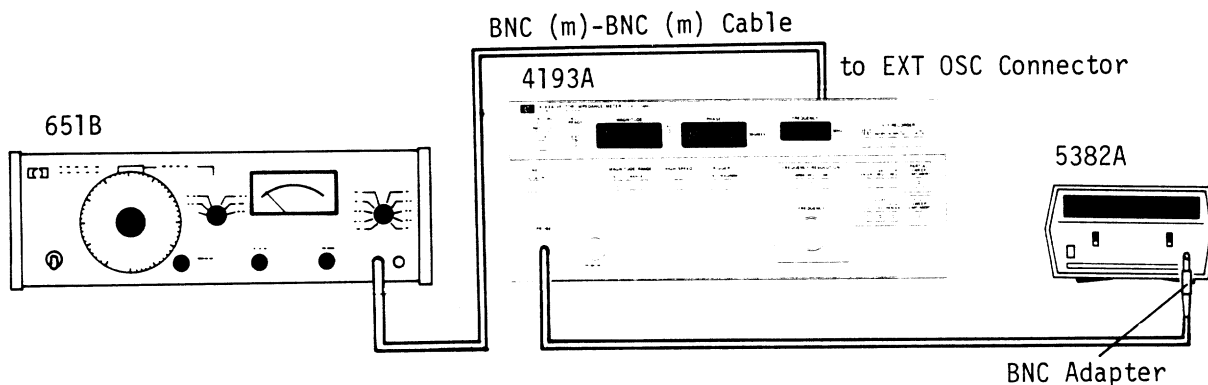

Figure 4-5. External Oscillator Usage Check Setup.
1. Connect the probe to the 5382A's input with the furnished BNC adapter (HP Part No. : 04193-61152), and connect the 651B 50Ω output to the 4193A's EXT OSC terminal on the rear-panel as shown in Figure 4-5.